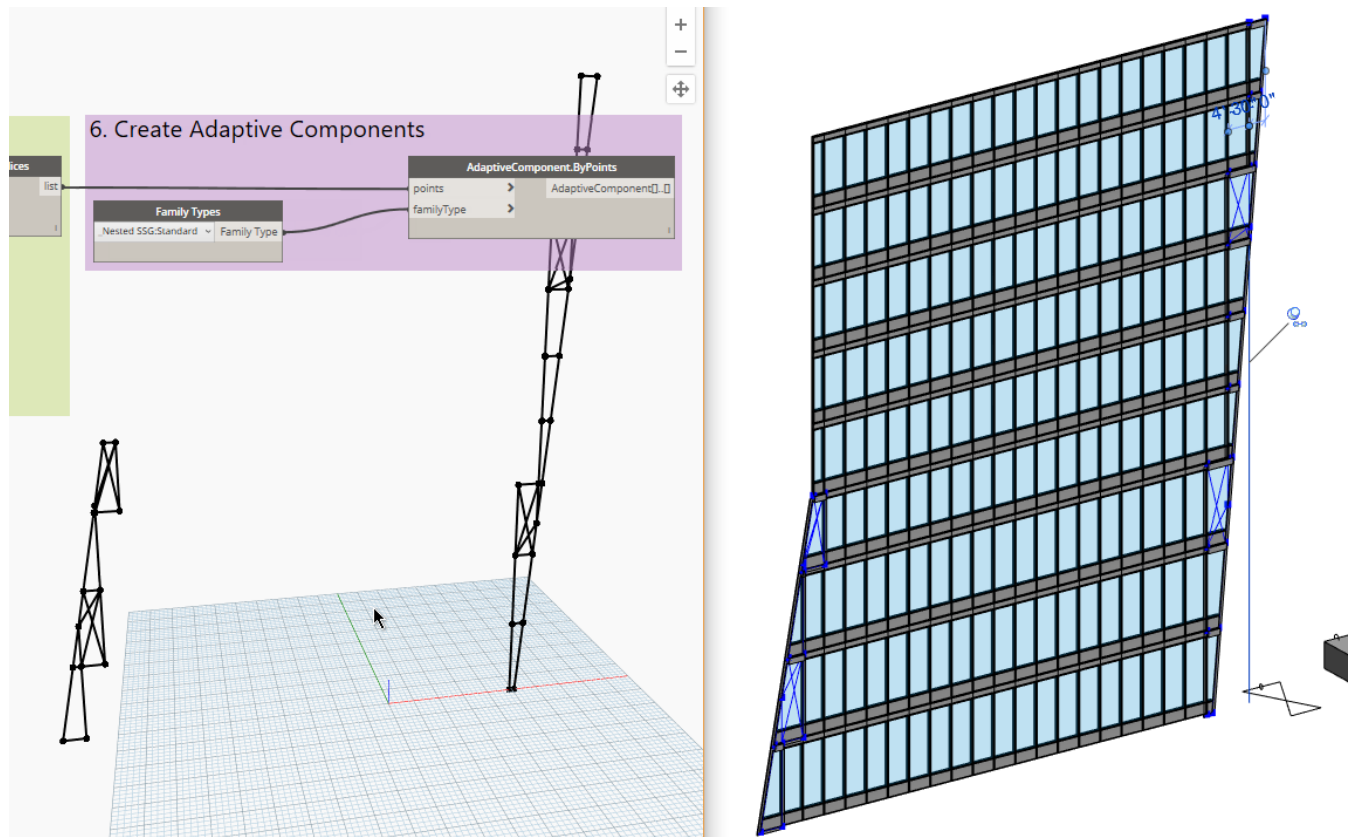

Figure 83
60. Turn on Use Levels for the element input as well. Change it to: @L1 and then run the graph again (see Figure 83).
69. Run the graph (see Figure 83).